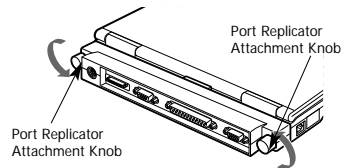

Figure 5-5 Releasing the Connection
2. Turn the Port Replicator Attachment Knobs counter-clockwise until the threads disengage and the knobs spin freely. (Figure 5-5.)